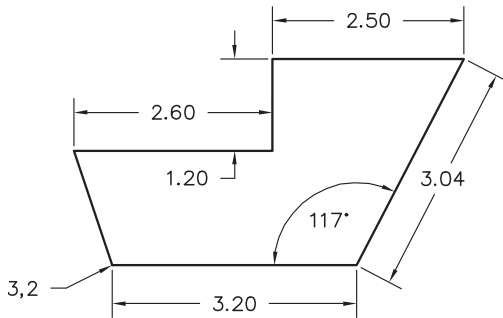

Fig. 7-12
**3-4.** List on a separate sheet of paper exactly what you would enter when using the **LINE** command to produce the drawings of sheet metal parts shown in Figs. 7-12 and 7-13. Then step through the sequence in AutoCAD. Try to use four methods—absolute, relative, polar, and polar tracking—to enter the points. Note that the horizontal lines in the drawings are perfectly horizontal. Be sure to **ZOOM All** at the beginning of each drawing. Save the drawings as **prb7-3.dwg** and **prb7-4.dwg**.